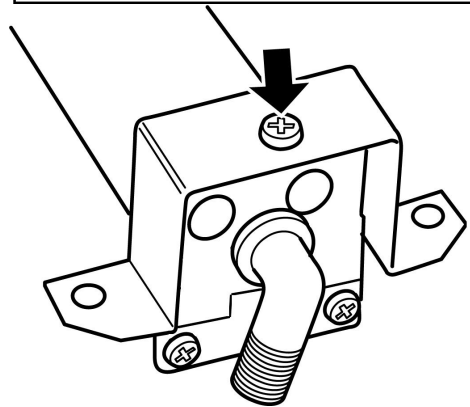

Figure 30. Main burner injector removal
(See figure 30).
2. Remove the burner clamping screw (See figure 30)